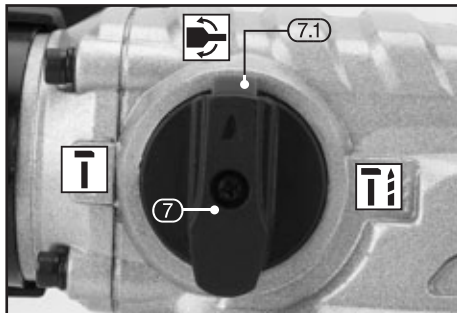

FIG.2
9.1 ROTARY/HAMMER AND DRILLING/CHISELLING SELECTOR SWITCHES – FIGS.2 – 3